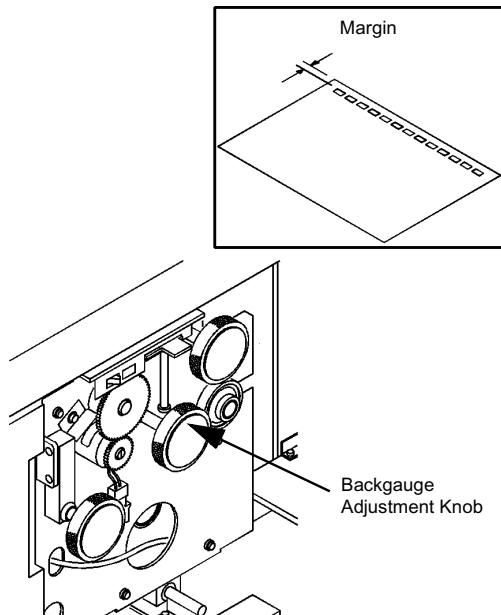

Figure 2-9: Setting the Backgauge Adjustment
- 4** Use the Backgauge Adjustment Knob to correct the margin, as shown in Figure 2-9. Adjust as follows: